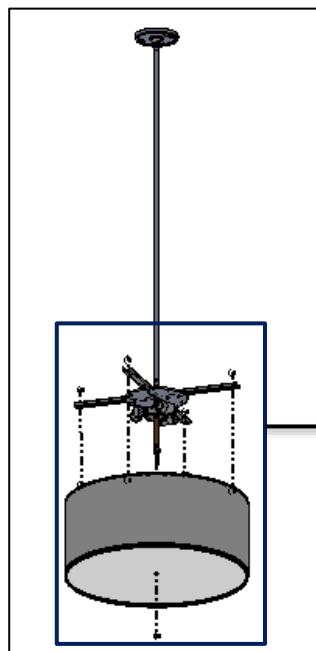
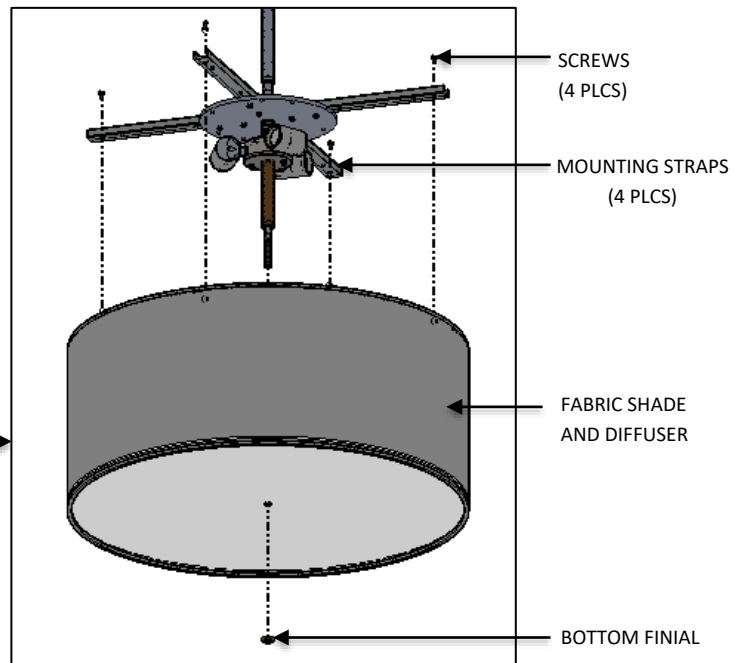

FIG. 22 – FABRIC SHADE AND DIFFUSER INSTALLATION
FIG. 23 – DETAIL VIEW SHOWING FABRIC SHADE AND DIFFUSER INSTALLATION
11. Unscrew the BOTTOM FINIAL from BOTTOM STEM ASSEMBLY. Attach FABRIC and DIFFUSER to the MOUNTING STRAPS and secure with the SCREWS provided as shown in FIG. 22. Make sure the center stem is lined up with the hole in the DIFFUSER and attach to BOTTOM FINIAL as shown below in FIG. 23.